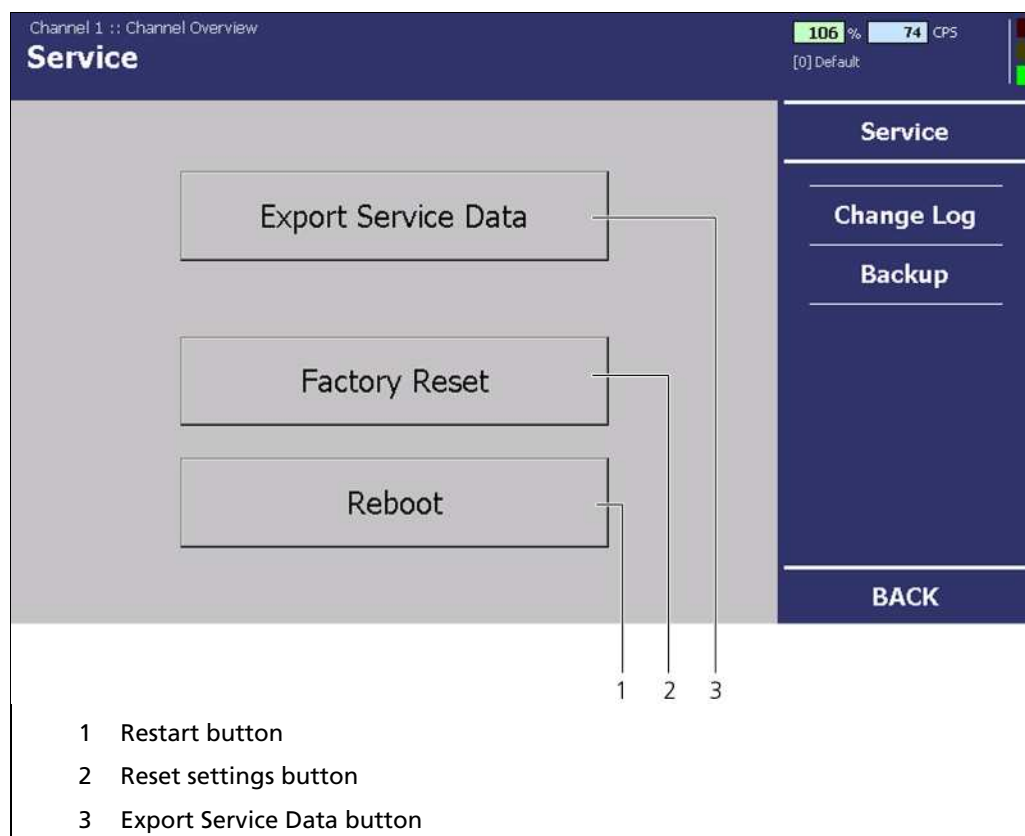

Fig. 73 "Channel Overview" Menu, Service
4. Click on <Export Service Data> (Fig. 73, Pos. 3).